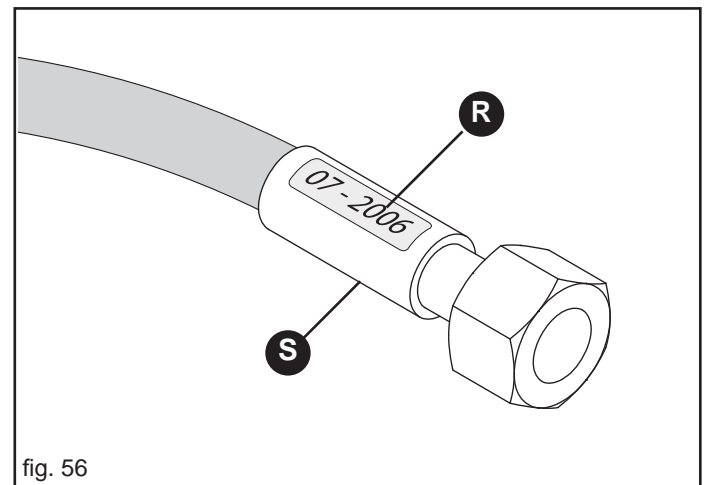

fig. 56
- when leaks are identified near the pipe sheath (S, Fig. 56);
- when the sheath is corroded (S, Fig. 56);
- 5 years after their manufacture (R, Fig. 56).